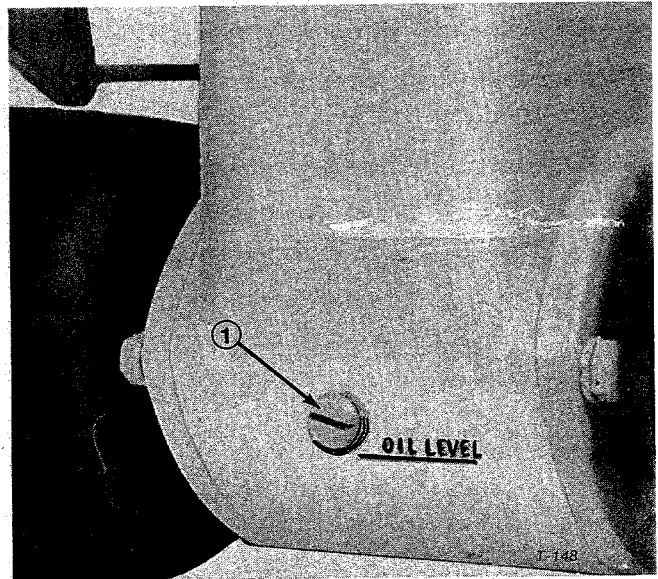

Figure 34
A. Place mower on level surface and remove pipe plug at rear of gear case. Oil should be to bottom of hole (Fig. 34).